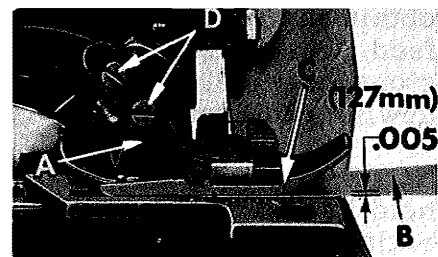

Fig. 18
Styles 39500 QT, RD, RL, RT, TK, TM and TT are equipped with a presser foot hold down plate (A, Fig. 18). The purpose of this plate is to hold down the rear of the presser foot and when set correctly it will help produce a more flat pucker free seam. An approximate setting is shown in Fig. 18. Set the machine with the feed dogs below the throat plate and insert a .005 inch (.127 mm) shim (B) under the front portion of presser foot (C). Loosen screws (D) which hold the hold down plate in position and move the plate down until it rests firmly against the presser foot. Tighten the two screws and remove the shim.